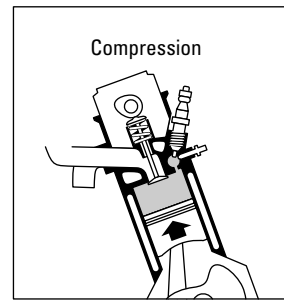

Figure 9-7: Compression stroke.
- ✔ **Stroke 2: Compression stroke (see Figure 9-7).** The intake and **exhaust valves** are closed as the piston moves upward and places the air under extreme pressure. As the pressure increases, the air heats up to the **flash point** (the point at which it causes the fuel to undergo spontaneous combustion). Just before the flash point is reached, **fuel injectors** spray fuel into the **combustion chambers** at the precise instant when ignition is to take place.